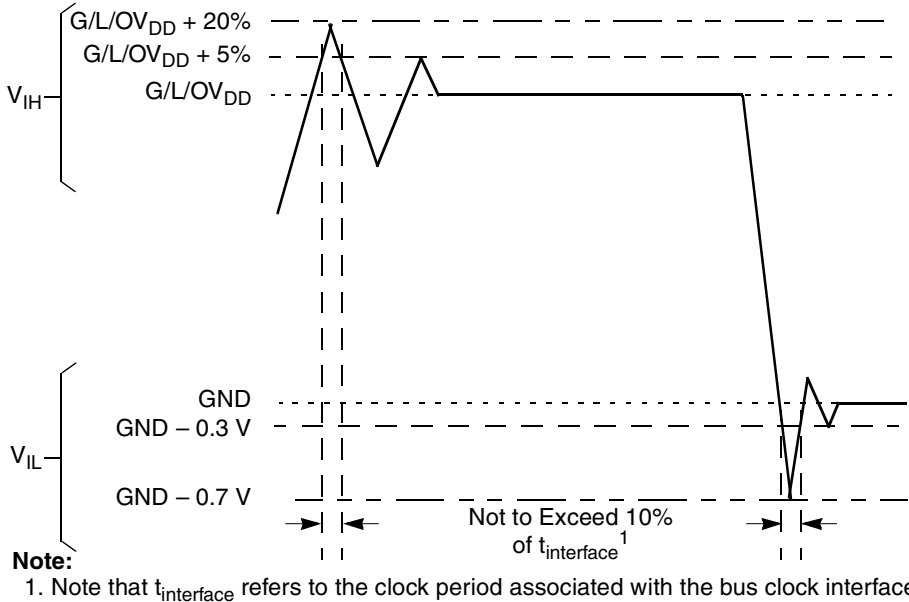

Figure 3. Overshoot/Undershoot Voltage for  $G_{V_{DD}}/O_{V_{DD}}/L_{V_{DD}}$
- (M,L,O) $V_{IN}$  and  $MV_{REF}$  may overshoot/undershoot to a voltage and for a maximum duration as shown in Figure 3.
Figure 3 shows the undershoot and overshoot voltages at the interfaces of the device.